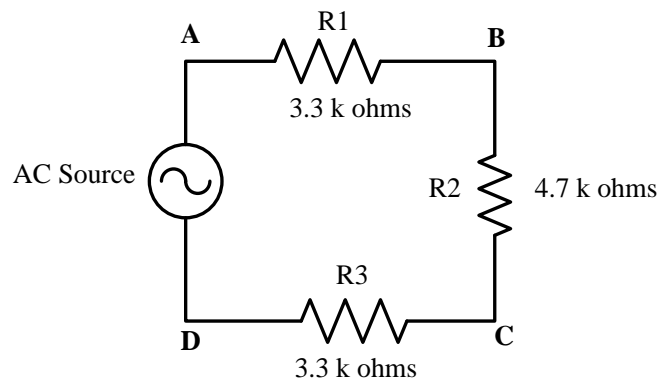

Figure 4-5: A circuit for measuring rms and peak values.
1. **Connect the circuit** of Figure 4-5.
2. Connect the output of the sine-wave generator (AC source in Figure 4-5) to channel 1 of the dual-trace scope.
3. Turn on the generator. (Press the POWER (9) button.) Select sinusoidal waveform. Set the frequency to 1000 Hz. With a DMM (used as an AC voltmeter) connected across its output, adjust the signal generator output to 5 V (rms). Record the value in the "Voltage, rms, measured" column of Table 4-1.